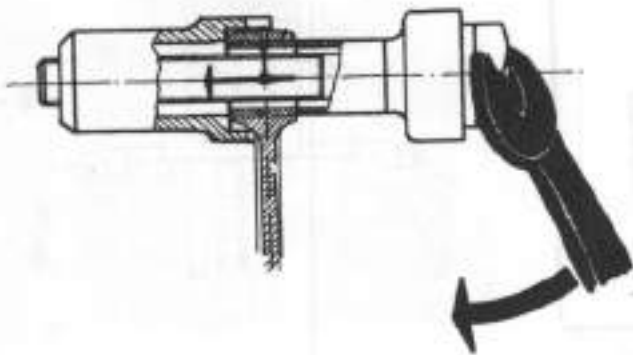

Fig. 23 - Reinstalling the piston pin bushing
- a) press out the gudgeon pin bush and press it in with the aid of fixture No. 08 (fig. 23).